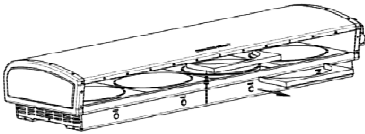

Figure 1
Insert and remove the 8 pieces * fill in pizza stone as indicated by the arrow in Figure 1.
1. Close-up figure 1 shows a DC female plug, which is used to connect to the DC male plug of the 12V/8A DC adapter.